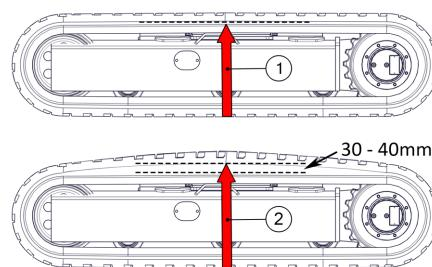

Figure 36 - Checking Track Tension
2. Measure from the ground to the inside edge of the track at the top central location (Figure 36, Item 1).
3. Pull the top centre of the track firmly upwards and measure the deflection from the initial measurement (Figure 36, Item 2).